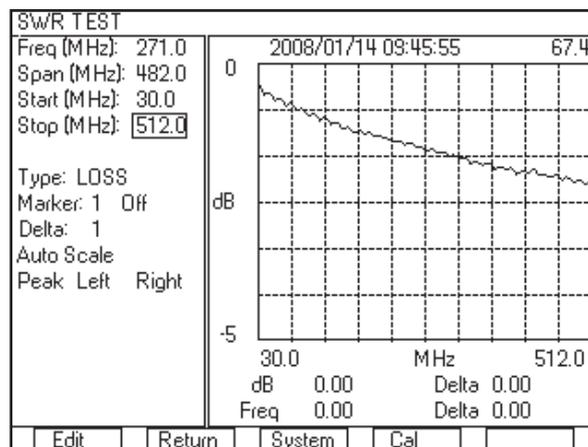

Figure 23 - SWR TEST screen showing cable loss
6. The display should now look something like Figure 23.